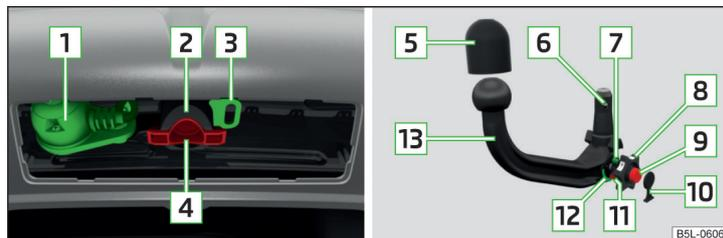

Fig. 147 Carrier for the towing device/tow bar
Support for the Towing hitch and tow bar » Fig. 147
- Remove the cover for the mounting recess **[4]** » Fig. 147 on page 159 in a downwards direction.
- Attach the cover for the mounting recess **4** » Fig. 147 on page 159 » **!**.